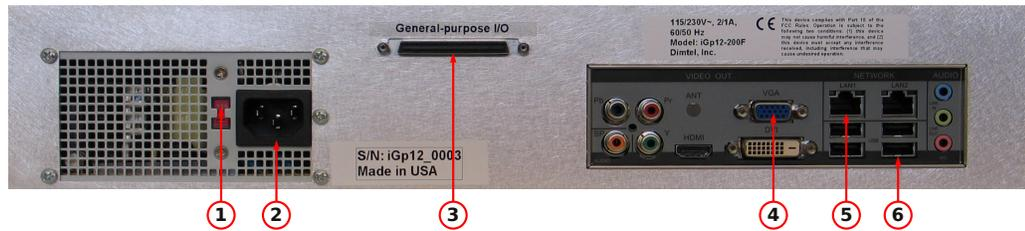

Figure 3: Rear panel features
**WARNING: Before connecting power to the unit make sure the voltage selection switch (Fig. 3, item 1) is in the correct position (115 or 230 V).**
1. Configure voltage selection switch (Fig. 3, item 1). Mains supply requirements for the iGp12-176F are listed in Table 10;
7. Connect a USB keyboard (Fig. 3, item 4);
8. Connect a video monitor (Fig. 3, item 5);
Setup program is included in the IOC for configuring the important features of the iGp12-176F. The program can be executed locally or remotely. For local execution one must first connect a keyboard (Fig. 3, item 4) and a video monitor (Fig. 3, item 5) to the system. For remote setup, use `ssh` after system bootup to establish connection. In both setup methods the user must login as `root` (initial password is supplied with the system). If the newly received iGp12-176F must be configured remotely (when, for example, a keyboard or a monitor is not available), such configuration can be performed using a dedicated network. Set up a network consisting of the iGp12-176F, a network hub or a switch, and a remote computer. The iGp12-176F is delivered with the following network configuration: